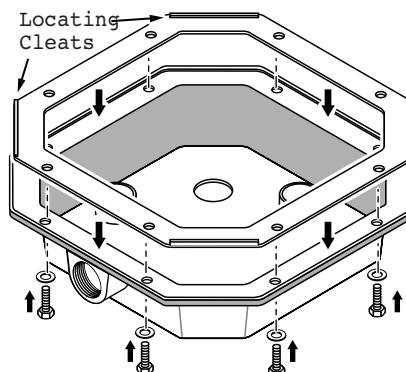

Figure 5
Step 6 (See Figure 5)
## Step 7 (See Figure 5)